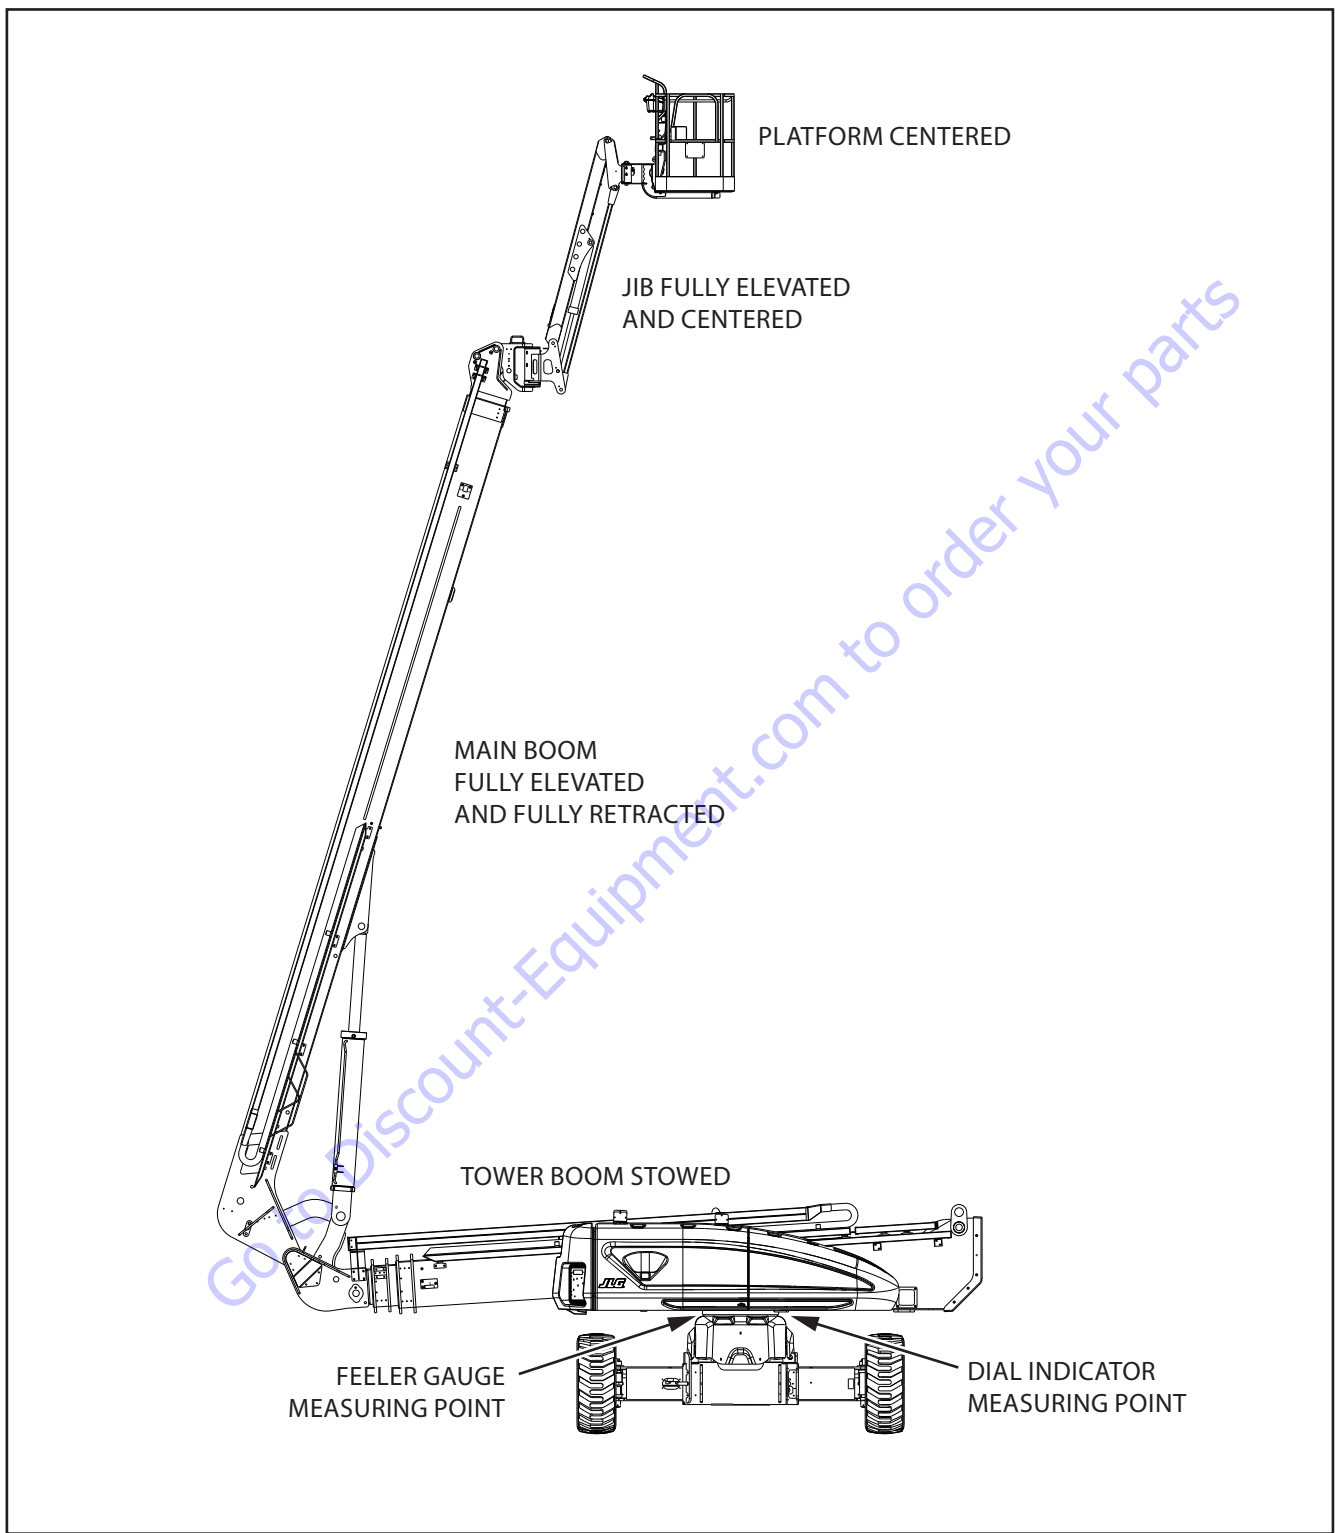

Figure 3-68. Turntable Bearing Service Boom Placement - 1
- a. Raise main boom to be fully elevated and retracted. Stow tower boom. Raise jib to be fully elevated and centered. Center platform and keep it unloaded. (See Figure 3-68.)
- b. At position indicated on Figure 3-68., try to insert a 0.0015 in (0.038 mm) feeler gauge between frame side bearing bolt and hardened washer.
1. Position machine as follows and as shown in Figure 3-68.
6. Position machine back to the first position as outlined in Step 1 and shown in Figure 3-68. The dial indicator should return to zero. If dial indicator does not return to zero, determine corrective action and repeat test.